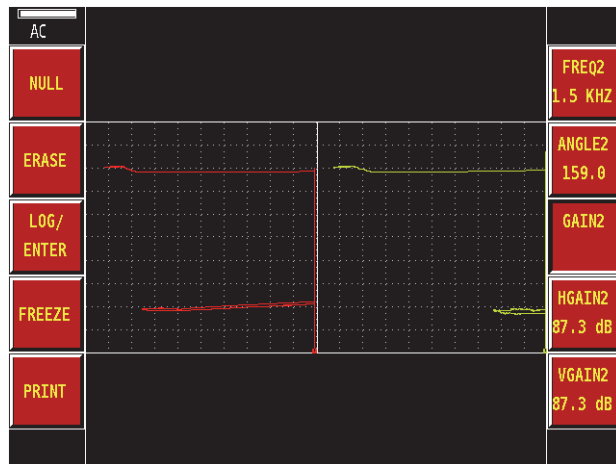

Figure 4-9
14. Repeat this process for frequency 2 until the screen is similar to Figure 4-9 on page 83.